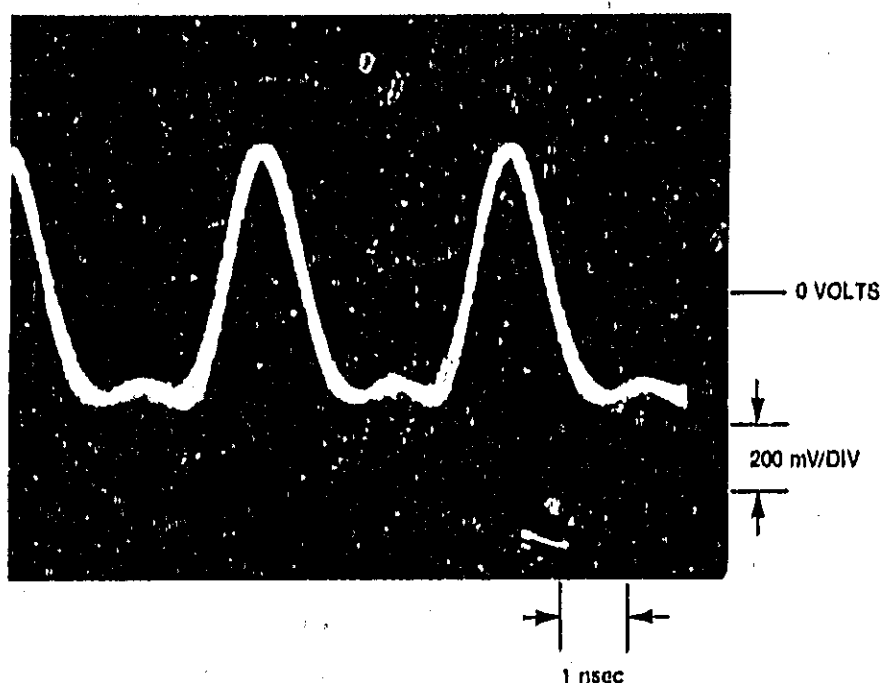

Figure 4
- Set signal generator to CW (250 MHz, 0 dBm). Center graticule of sampling oscilloscope should be at -400 mV. The displayed signal should have swings of at least 250 mV above and below -400 mV as seen on sampling oscilloscope. If necessary, adjust "OUT BAL" (A15R19) to obtain proper swings. See Figure 4 for typical waveshape.